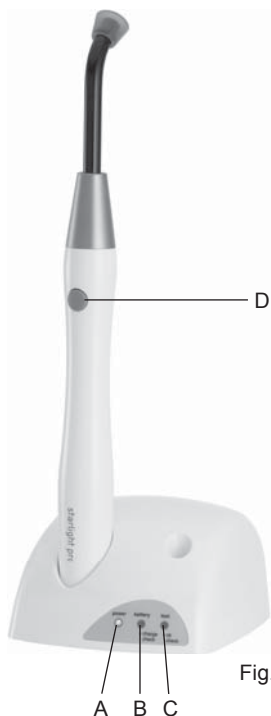
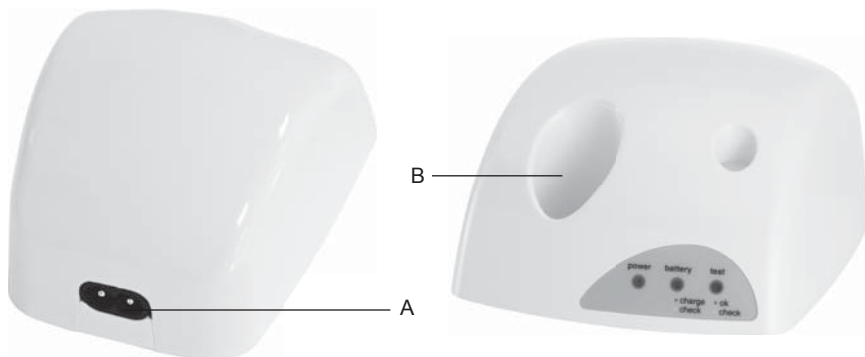

Fig. 4
Fig. 5
⚠ DANGER: Do not short circuit the electric contacts of the charging unit with metal objects (Fig.5 - Ref.B) and do not touch them with your hands while the equipment is switched on.
Description of the controls (Fig. 4):
- 2 Plug the power cable (Fig.3 - Ref.E) into the connector on the rear of the equipment (Fig.5 - Ref.A) and then into the power outlet. The green power LED should light up (Fig.4 - Ref.A).
- 1 Insert the handpiece into its housing in the charging unit (Fig.5 - Ref.B). The green battery LED will light up (Fig.4 - Ref.B).
- 1 Place the handpiece in its housing in the charging unit (Fig.5 - Ref.B). The green battery LED will light up (Fig.4 - Ref.B).
If the yellow battery LED (check) on the charging unit lights up, this indicates that the battery has failed (Fig.4 - Ref.C).
- To start the FAST exposure cycle press the push button on the handpiece briefly (Fig.4 - Ref.D). An acoustic signal will be heard (1 beep).
After the end of the treatment, place the Starlight pro handpiece back into the charging unit (Fig.5 - Ref.B).